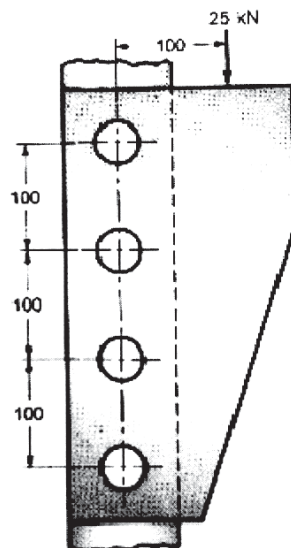

Fig.1
- Q5) a)** A bracket, fixed to a vertical column by means of four identical bolts, is subjected to an eccentric load of 25 kN as shown in fig.1. If the permissible shear stress for the bolt is  $60\text{N/mm}^2$ , determine the size of the bolt. [7]